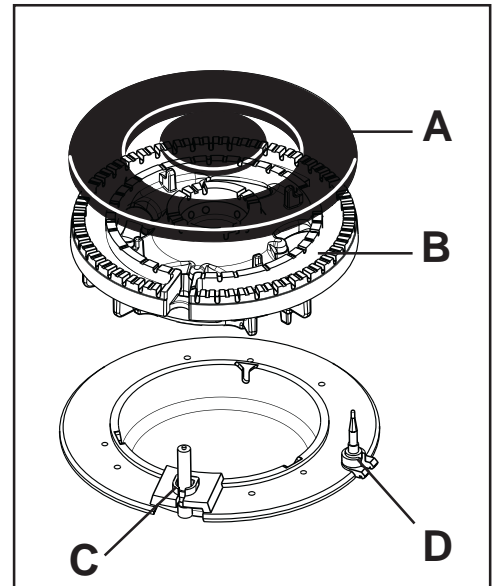

Fig. 1
2. After lighting the flame, keep the knob pushed down for about 5 seconds. This will allow the "thermocouple" (Fig.1 lett.D) to be heated and the safety device to be switched off, otherwise the gas supply would be interrupted.
i If you cannot light the flame even after several attempts, check the "cap" (Fig. 1 lett. A) and the "crown" (Fig. 1 lett. B) are in the correct position.
In models provided with electric ignition, this feature is obtained through a ceramic "candle" and a metal electrode (Fig. 1 lett. C). Keep these components well clean, to avoid difficult lighting, and check that the burner crown holes (lett. B) are not obstructed.